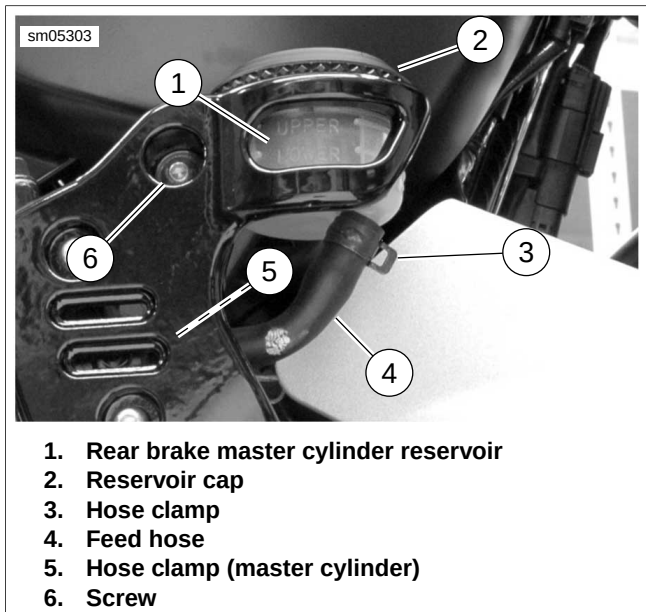

Figure 2-119. Rear Brake Master Cylinder Reservoir: XR Models
2. See Figure 2-119. Loosen reservoir cap (2).
3. Remove screw (6).
4. Remove reservoir cap (2). Hold reservoir upside down over a suitable container and drain brake fluid.
5. Loosen hose clamp (3) and pull feed hose (4) from reservoir. Slide hose clamp off free end of feed hose.
6. Loosen hose clamp (5) and pull feed hose off master cylinder. Cover feed hose port with a clean, lint-free cloth to keep dirt and debris out of master cylinder.
1. See Figure 2-119. Slide end of feed hose (4) onto feed hose port on master cylinder. Secure feed hose to fitting with hose clamp (5).
2. Slide hose clamp (3) onto free end of feed hose (4).
3. Push feed hose onto fitting on reservoir (1) and secure with hose clamp.
4. Install reservoir using screw (6). Tighten to 36-60 **in-lbs** (4.1-6.8 Nm).